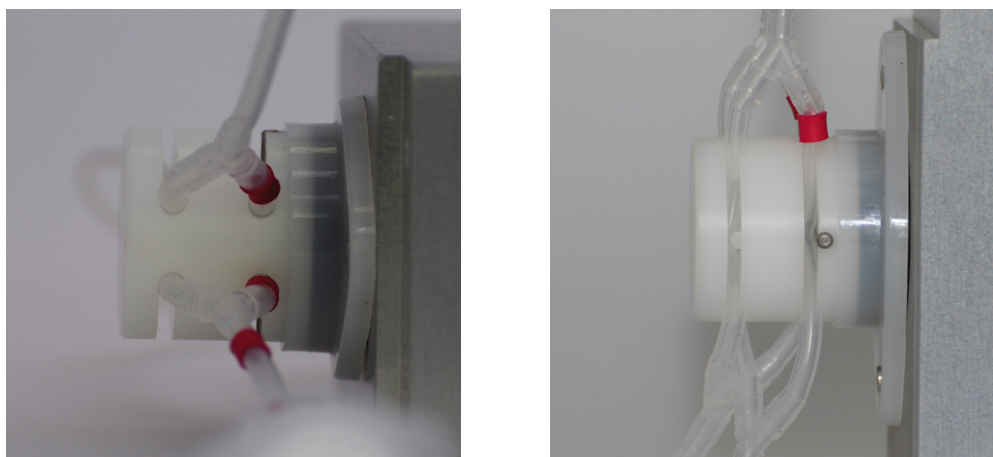
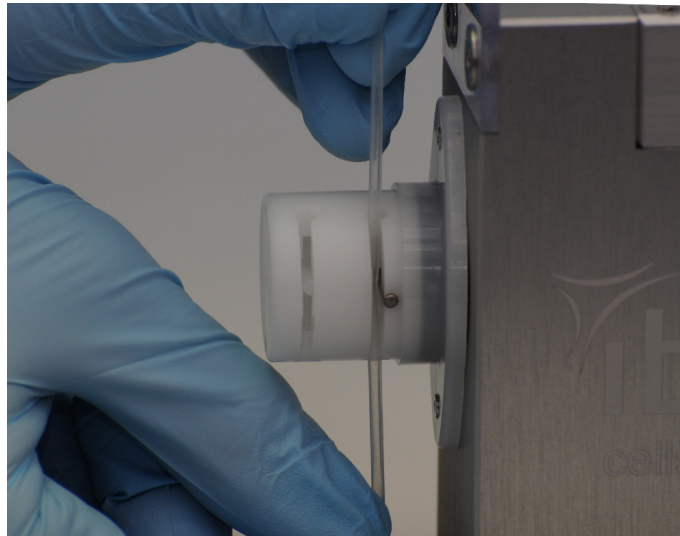

Figure 25 – Top view (left) and side view (right) of properly mounted tubing in the pinch valve.
Figure 26 – Move the tubing up and down while stretching for easy placement into the valve slots.
6. Check the correct position of the tubing in the openings of the pinch valve (Figure 25).
For easy mounting, stretch the tubing and move it up and down. Stretch the tubing only between the y-connectors to ensure the tubing is not disconnected (Figure 26).
If the liquid is moving in one or both of the positions, check the insertion of the tubing in the pinch valve. Stretch the tubing and move it up and down for proper placement in the valve’s slot (Figure 26). Also check for correct positioning of the tubing (Figure 25). If this action does not correct the problem, contact ibidi or your local distributor.